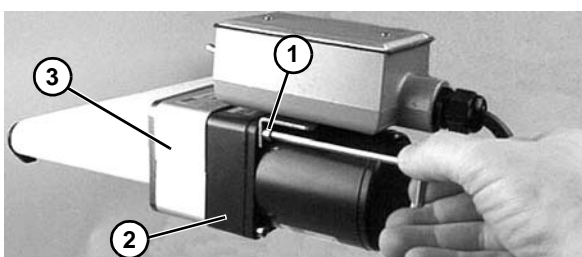

Figure 57
3. Remove four (4) screws (**Figure 57, item 1**). Remove gearmotor (**Figure 57, item 2**) and top cover (**Figure 57, item 3**).